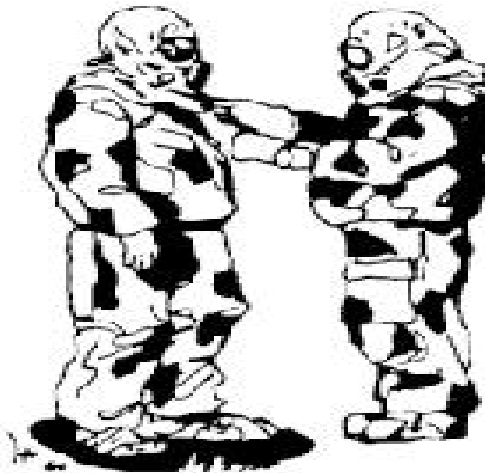

Figure E-103. Securing the hood.
- (1) Unroll your hood.
- (2) Reattach the straps.
- c. Check all the zippers and ties on your hood and Overgarment to ensure they are closed (figure E-103).